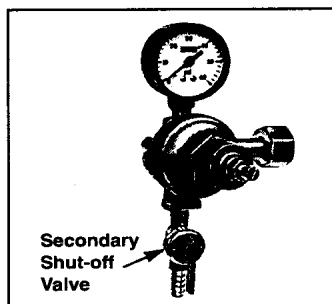

Figure 9
- Before doing that, make sure the secondary shut-off valve is closed, as shown in figure 9. To open the main CO₂ cylinder valve, slowly turn the main valve counter-clockwise until fully open.